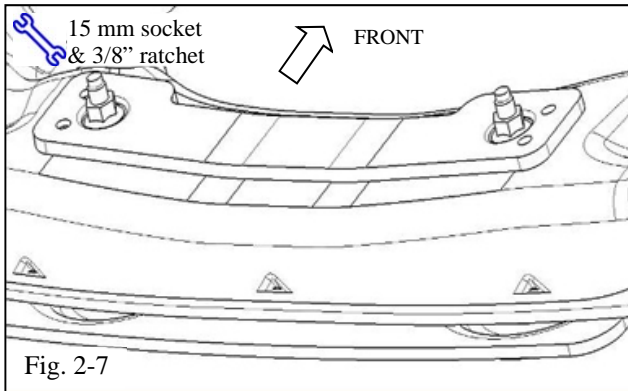

Fig. 2-5
- (f) Locate the plastic ratchet fasteners and install them through the plastic bumper tabs into the holes on the skidplate (3 places) (Fig. 2-5).